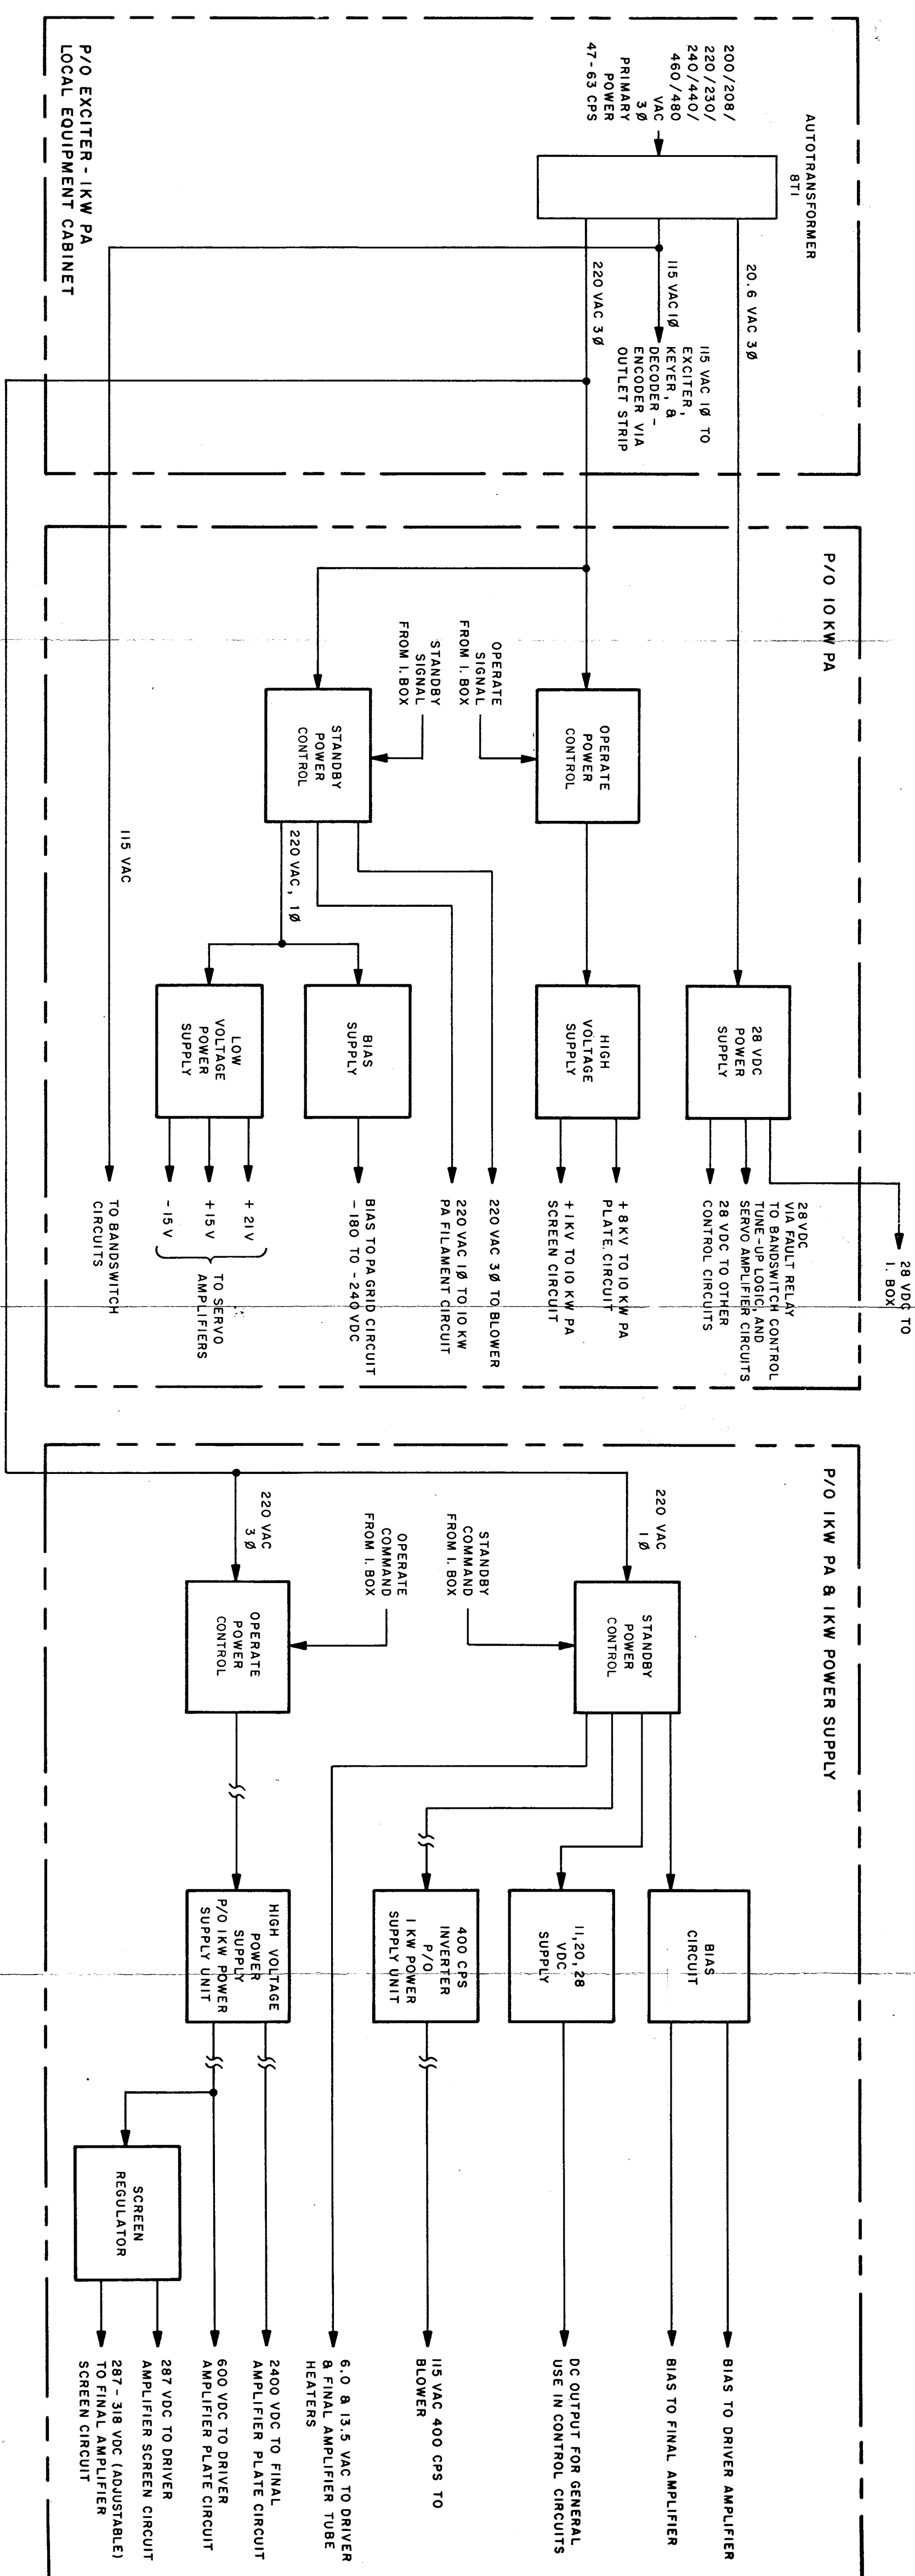

Figure 4-30. Power Supply Circuits, Functional Block Diagram
4-236. The power supply circuits (figure 4-30) provide all voltages necessary to operate the AN/FRT-84(V) from either a 220 or a 460 VAC, 3 phase source. Taps on the input of autotransformer 8T1 allow for small deviations from the nominal voltage.